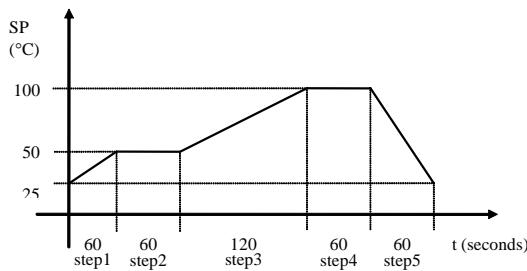

Figure 2.25 – Configuration Example
- 2) The two arrays define the Setpoint value (y-axis) in function of the time (t-axis). Between two given points, the Setpoint is calculated by interpolation. As each segment is defined by [START_VAL]_i, [DURATION]_i and [START_VAL]_{i+1}, a profile with "n" segments will need **n+1** starting values and n time durations. As example, the two following arrays define the profile shown on Figure 2.25.